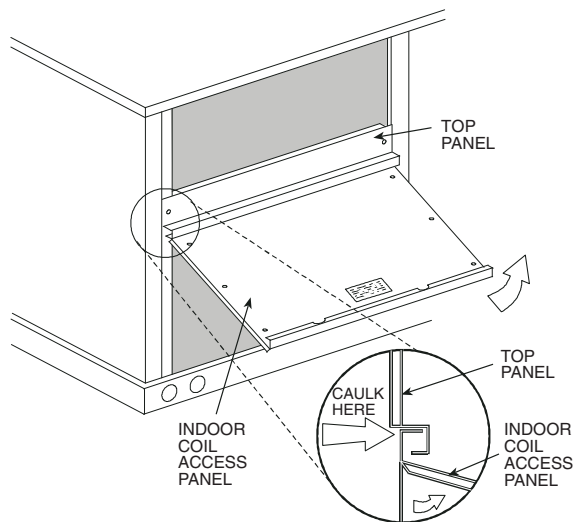

Fig. 13 — Indoor Coil Access Panel Relocation
1. The indoor coil access panel will be used as the top of the hood. Remove the screws along the sides and bottom of the indoor coil access panel. See Fig. 13.